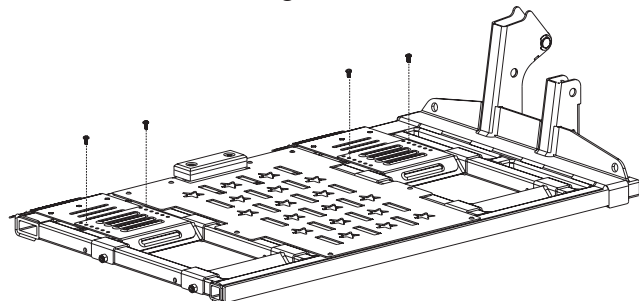

Figure 6-28
6. Reattach the ramps using a #2 Phillips screwdriver. *See Figure 6-28.*